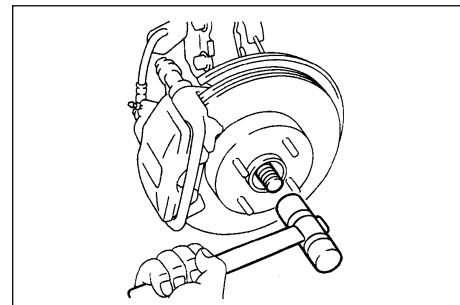

Figure 1-7
19. Disengage the front drive shaft assembly (see Figure 1-7).